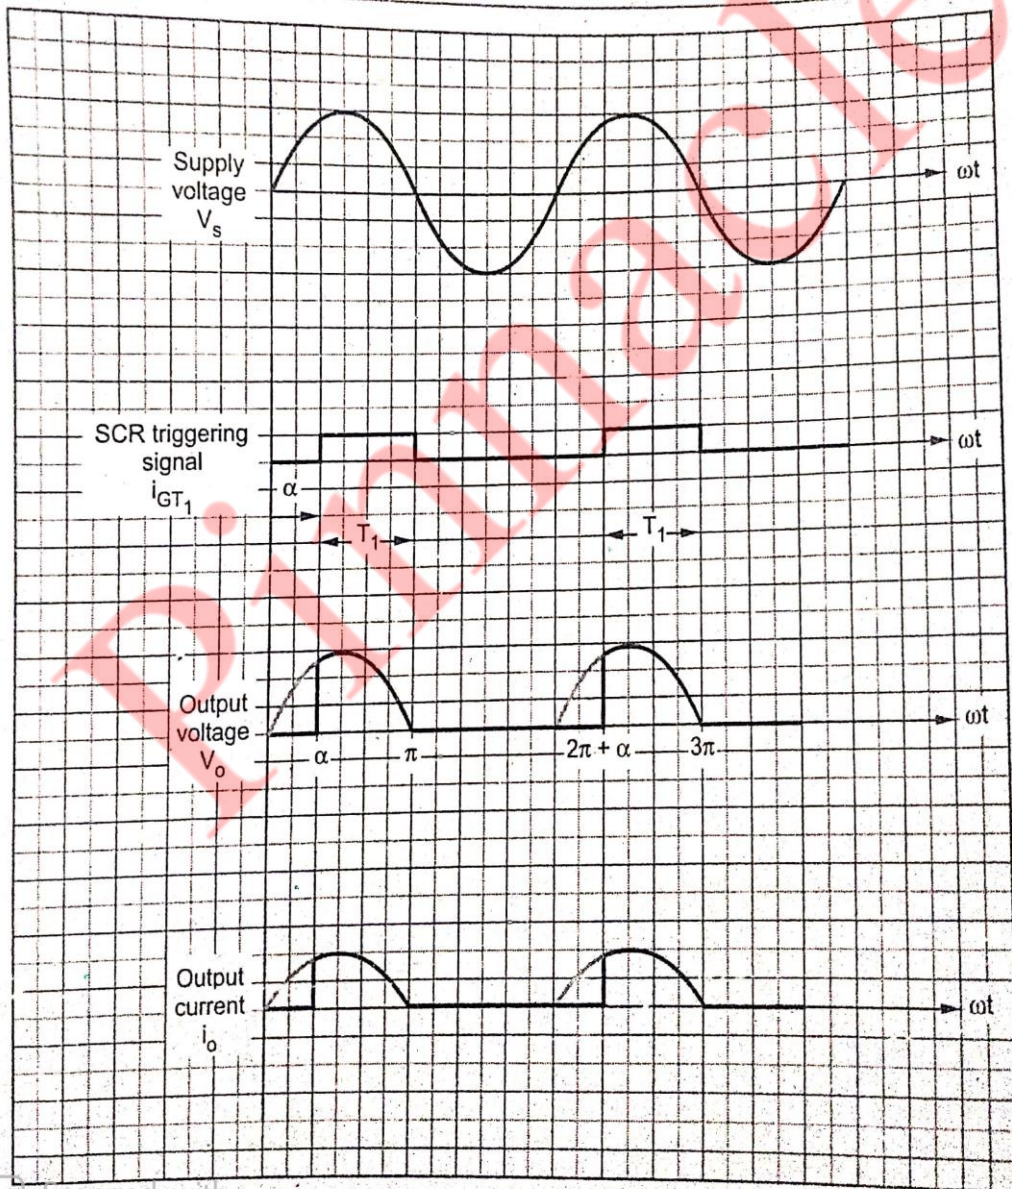

Fig. 2.2.2 Phase control principle as applied to half wave controlled rectifier
3) The primary of the transformer is connected to the mains supply. In the positive cycle of the supply, T1 is forward biased. T1 is triggered at an angle α . This is also called as triggering or firing delay angle. T1 conducts and secondary (i.e. supply) voltage is applied to the load. Current i_o starts flowing through the load. The output current and voltage waveforms are shown in fig. 2.2.2.